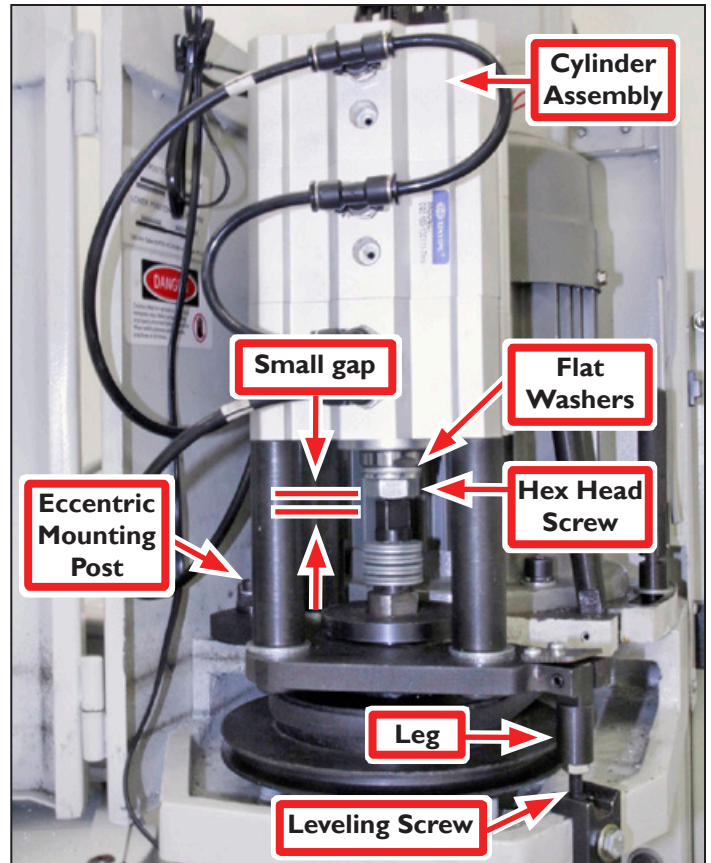

Figure 13
10. Move the air Cylinder Assembly over the Eccentric Mounting Post as shown in **Figure 13**.
11. Adjust the Leveling Screw until the Cylinder Assembly is close to level (see **Figure 13**). Tighten the Leveling Screw jam nut.
12. With the cylinder in the retracted position, there should be a small gap between the Hex Head Screw and the top of the Drawbar (see **Figure 13**). If there is no gap, remove one M16 Flat Washer from the cylinder rod.